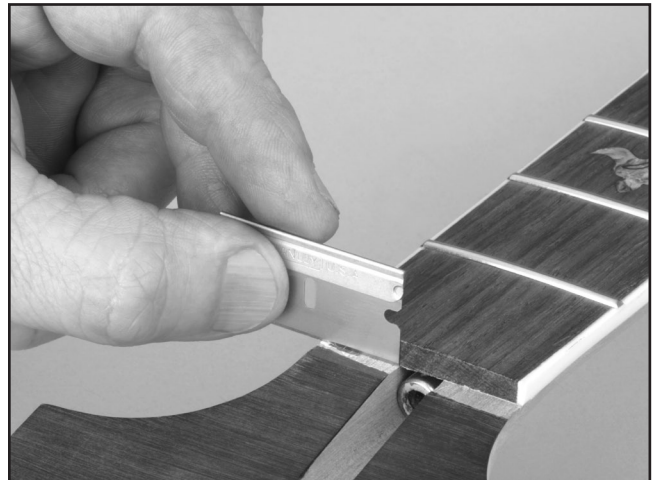

Figure 29. Cleaning out the nut slot.
1. Use a chisel or razor blade to scrape any finish out of the nut slot (**Figure 29**). DO NOT remove any wood from the nut slot.